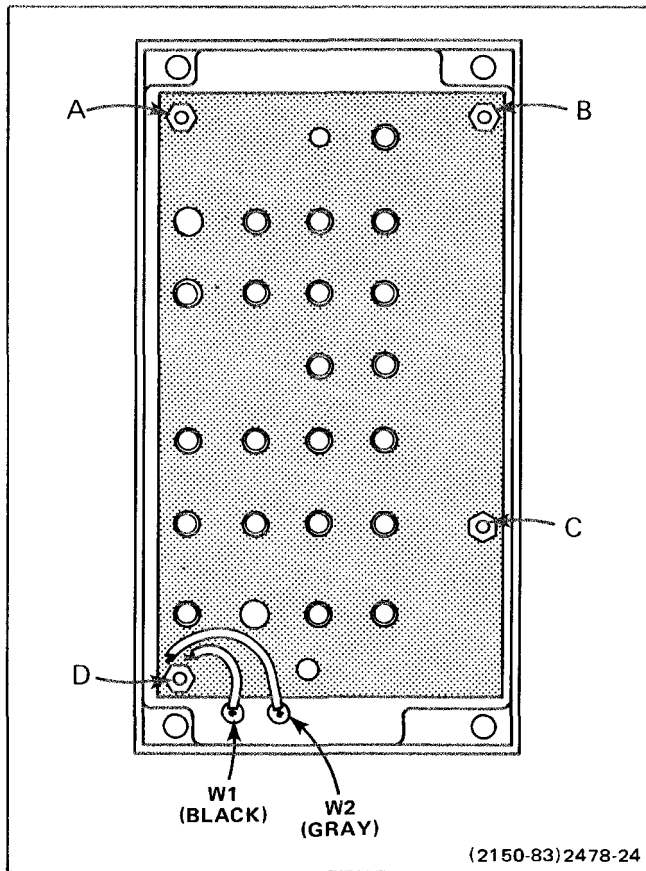

Figure 6-7. Locations of hex securing spacers and wiring to be disconnected on A1 Formatter Keyboard circuit board.
2. Disconnect 2 wires (W1 and W2 on Figure 6-7). Remove 4 hexagonal spacers (A, B, C, and D on Figure 6-7), and lift board away from front sub-panel.